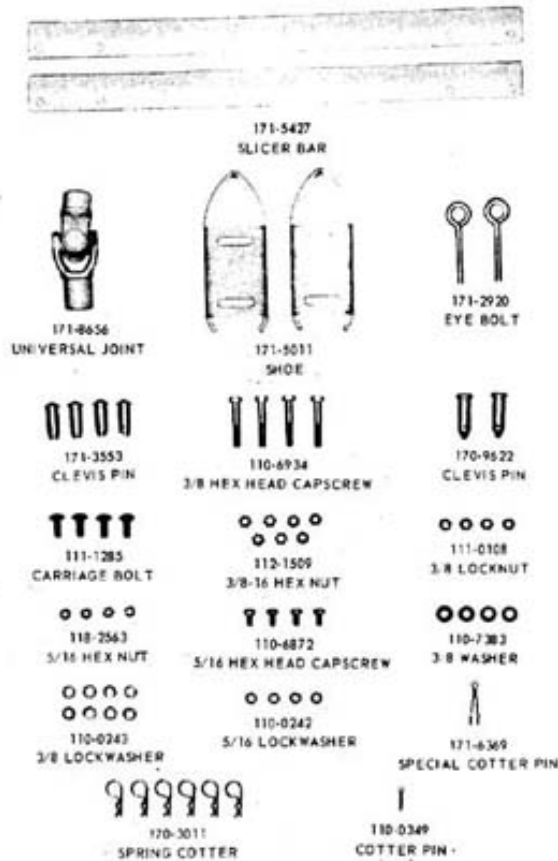

FIGURE 2. LOOSE PARTS
(1) After removing the snow caster from its carton, mount the hitch as shown in Fig. 2 using four 3/8-16 x 2-1/4" hex head cap screws, lock washers and hex nuts.